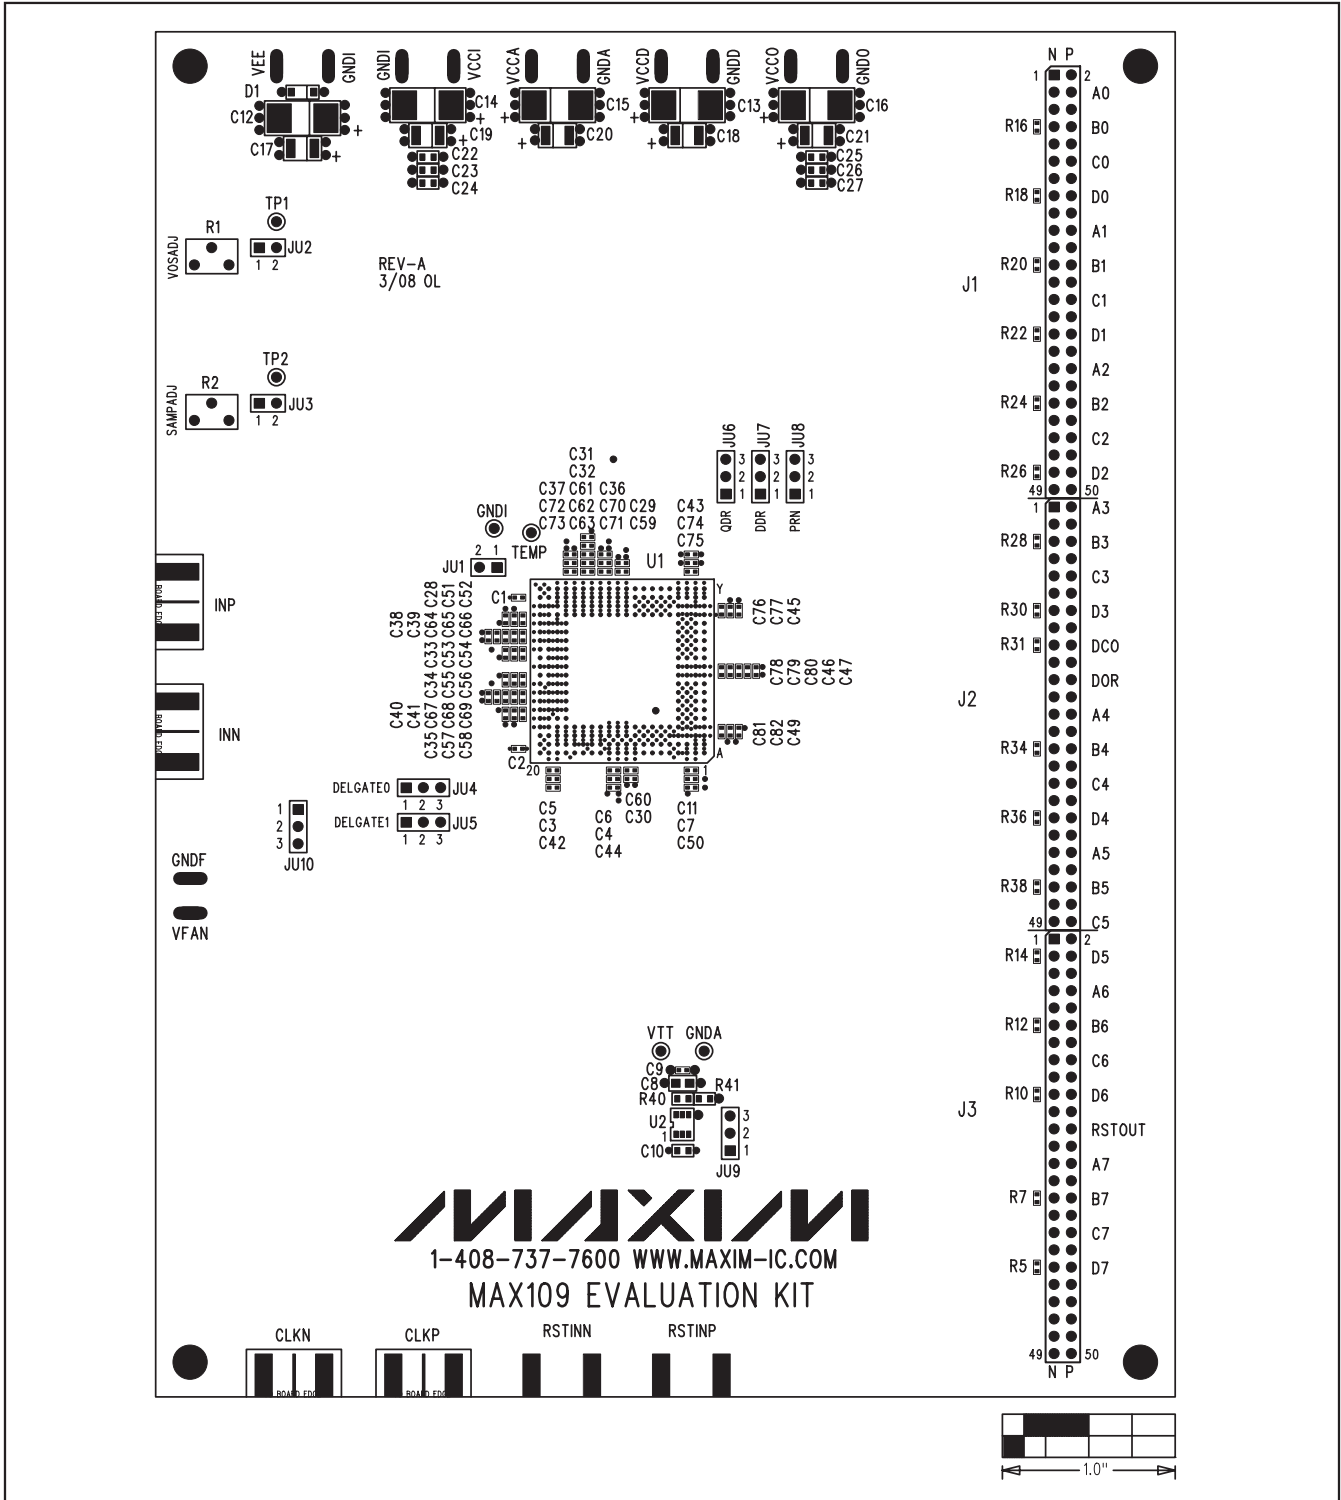

Figure 2. MAX109 EV Kit Component Placement Guide—Component Side
- 12) Connect the logic analyzer to the square-pin headers (J1, J2, and J3) to access the PortA, PortB, PortC, or PortD LVDS output signals. Refer to the EV kit silkscreen or see Figure 2 for bit locations. The data output synchronization clock signal is available on DCOP and DCON. Pins located on the outside of the headers are the positive (P) or true signals. Pins located on the inside are the negative (N) or complementary signals.